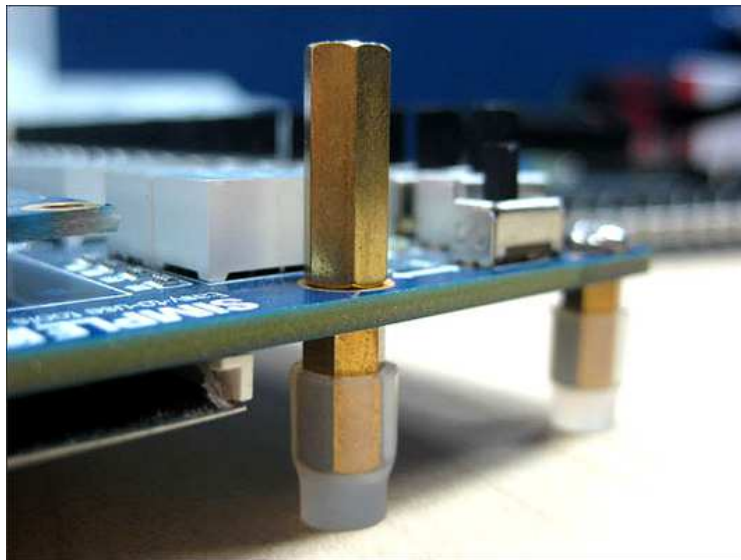

Figure 1-2 The feet for the DE2-115 board
- **Assemble a rubber (silicon) cover, as shown in Figure 1-2, for each of the six copper stands on the DE2-115 board**